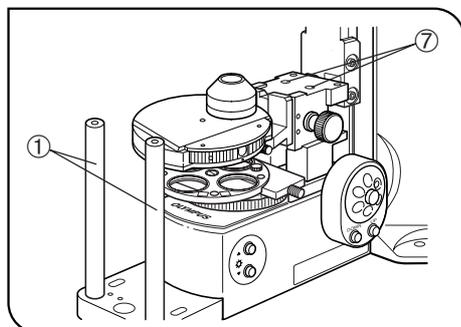

Fig. 60
7 Attaching the Cross Stage (Figs. 60 & 61)
When no condenser is used, the stage height can be lowered by 50 mm by loosening the 2 holder clamping screws (⑦ in Fig. 60) and removing the condenser holder.